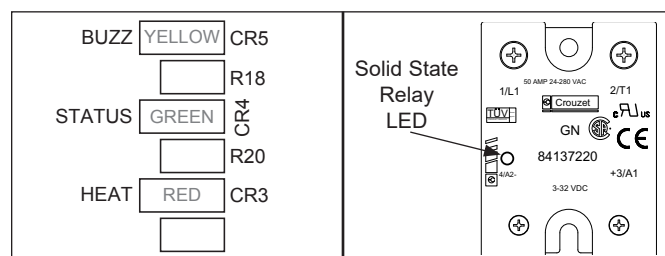

Figure 4. Control Board LEDs
3. Using a pyrometer, measure the temperature at the middle of the Platen surface (Figure 4). The temperature should be 250°F–300°F (121°C–149° C).